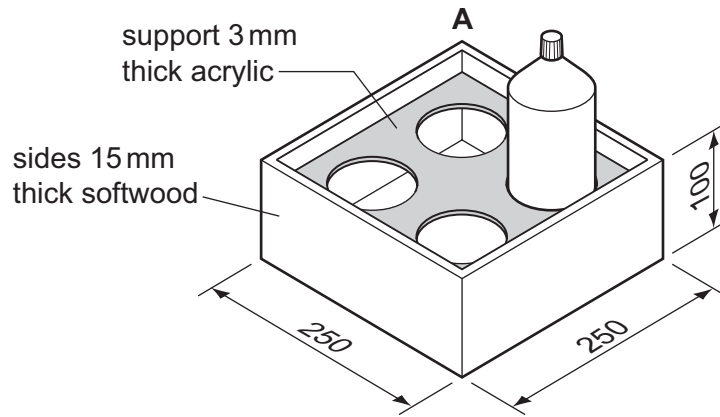

Fig. 5
- 11 Fig. 5 shows an incomplete design for a holder that will allow students to carry four paint bottles.